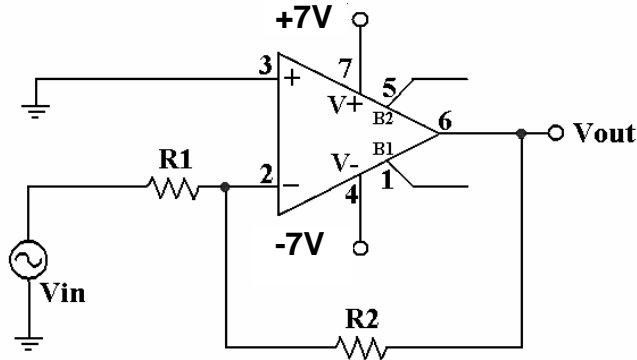

Fig. 1. Inverting Amplifier Configuration
2. For the circuit in Fig. 1, derive the voltage gain expression at low frequencies (DC gain) assuming the Opamp is ideal.